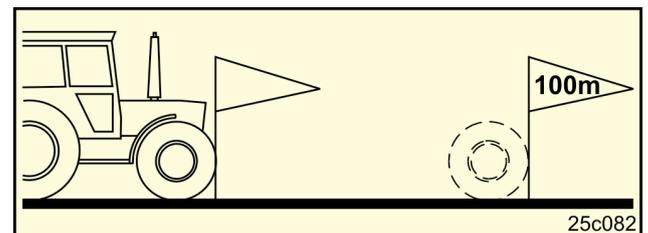

Fig. 9
- Carefully measure the test distance of 100 m in the field. Mark beginning and end of the test distance (Fig. 9).